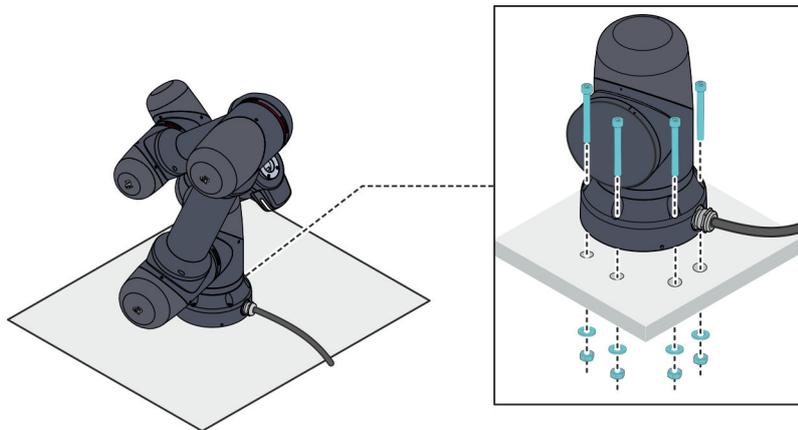

Fig. 50 Example: Assembly with through bores (part 2)
16. Initially tighten the threaded connections on the robot base for the remaining four holes to a tightening torque of 13 Nm Fig. 50.